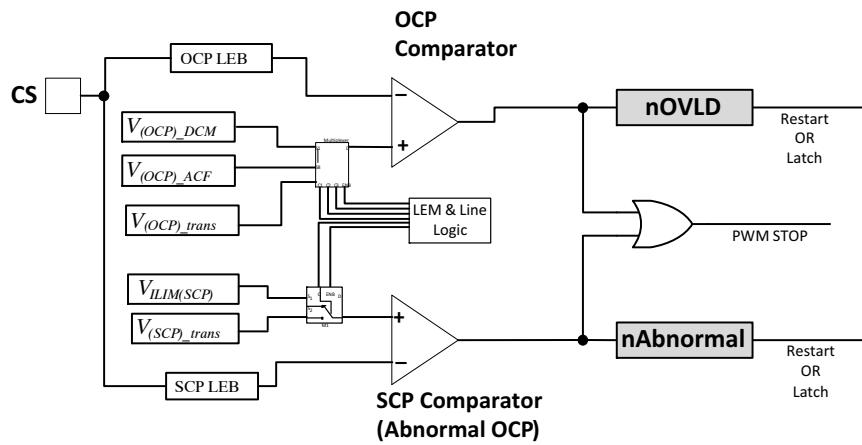

Figure 27. Current Limit Comparators
The current passing through the primary main FET is sensed via a resistor at the CS pin. The ramping current sensed by the CS pin is used to modulate the loop error voltage (FB) to generate PWM signals; it is also used for cycle by cycle peak current limit control and detection of a short circuit condition. Figure 27 below shows the block diagram of the current limit circuitry.